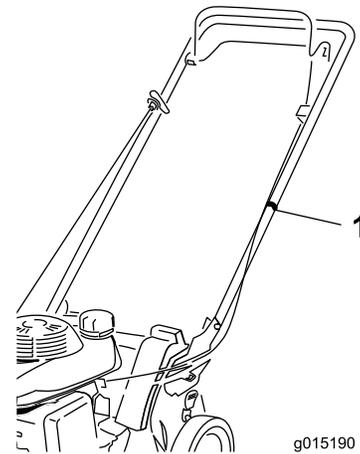

Figure 8
6. Tie the loose cables to the handle (Figure 8) using the cable tie from the loose parts bag.